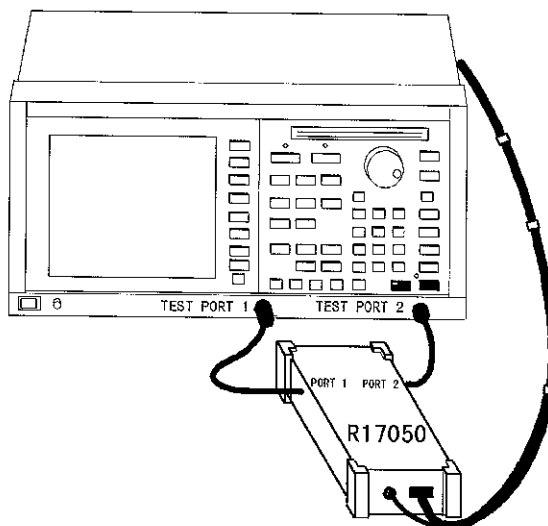

Figure 6-2 RF Port Connection
2. Connect the RF ports of the instrument to the test ports of the network analyzer (see Figure 6-2), using the cable that is actually used to measure the DUT. The RF port of the instrument has no directivity. Feel free to select port combinations.